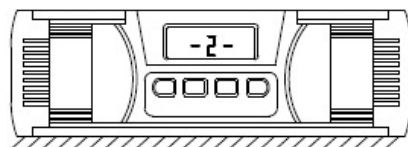

Fig. 2
- » Press „ON/OFF“, „-1-“ flashes. Do not touch the instrument until „-2-“ appears (Fig. 2).